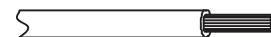

Fig. 26 —Stripping the Wire
2. Strip a suitable length of the insulation layer. See Fig. 26.